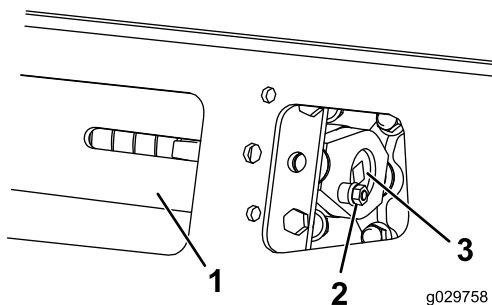
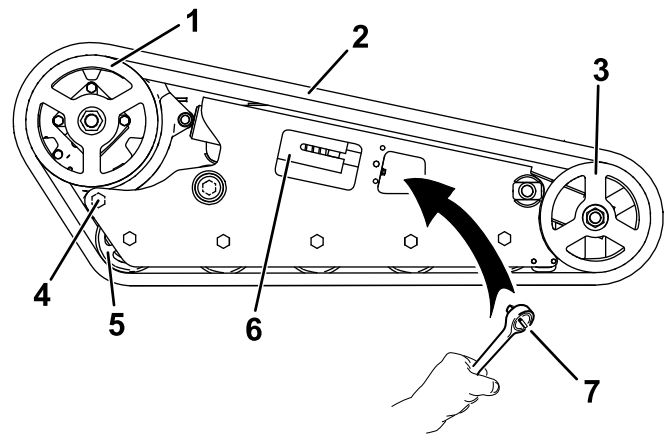

Figure 58
Figure 59
4. Remove the locking bolt and nut (Figure 58).
6. Align the closest notch in the tension screw to the locking-bolt hole and secure the screw with the locking bolt and nut (Figure 58).
5. Using a 1/2-inch drive ratchet, release the drive tension by turning the tensioning screw clockwise (Figure 58 and Figure 59).
6. Loosen the rear bolt, near the drive wheel (Figure 59).
8. When the track is off the front wheel, remove it from the drive sprocket and road wheels (Figure 59).
lugs on the track fit between the spacers on the sprocket (Figure 59).
10. Push the track under and between the road wheels (Figure 59).
12. Using a 1/2 inch drive ratchet, turn the tensioning screw counter-clockwise until the tensioning screw bottoms out (Figure 58).